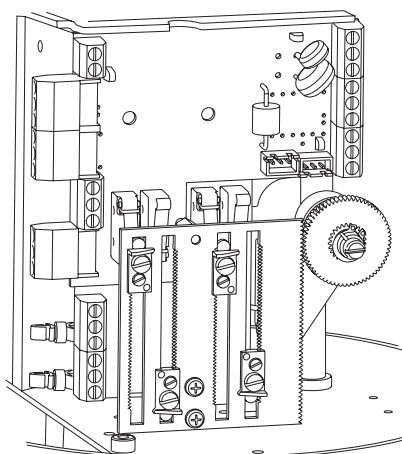

Fig. 21
- Remount the switching plate (Figure 21).